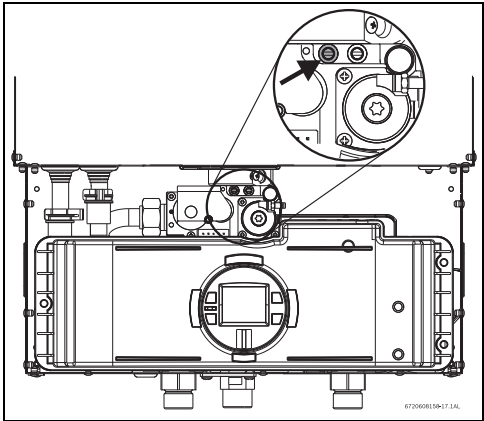

Fig. 47 Gas pressure test port (left tapping)
- ▶ Remove front cover and locate inlet gas pressure test port (see fig. 47).
- ▶ Loosen screw inside left test point fitting (do not remove) and connect manometer tube to test point (see fig. 47).